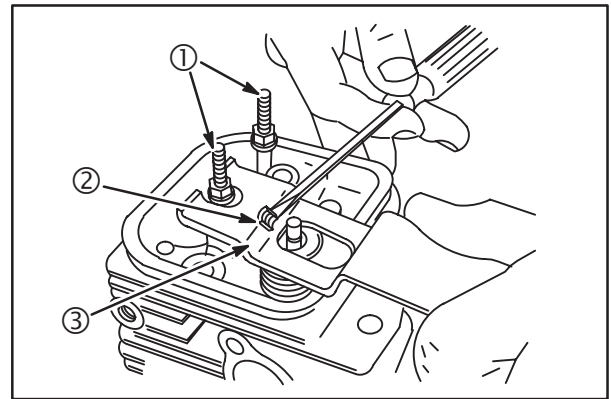

Fig. 7
2. Compress valve spring and retainer with Valve Spring Compressor (3) #19347, Fig. 7.
3. Remove valve spring retainer locks (2).